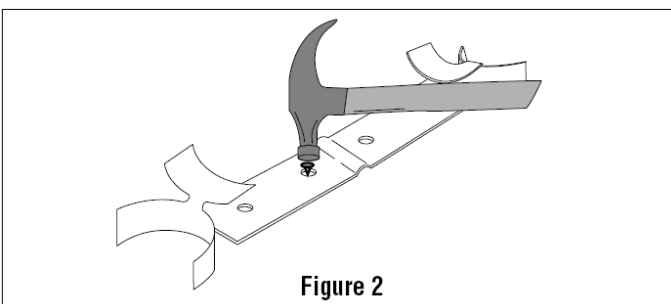

Figure 2
2. Attach the GutterMelt® Roof Clips to the roof with roofing nails or screws prior to installing the GutterMelt® Cable, see figure 2. Apply water sealing material around each nail/screw to prevent water leakage.